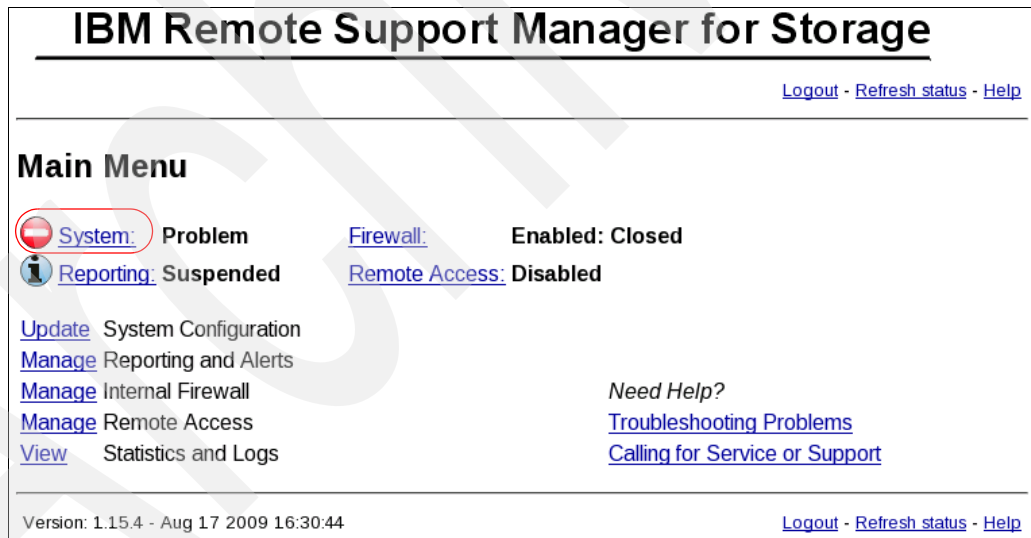

Figure 6-10 RSM main menu
3. You return to the Main Menu. The upper right menu contains a logout link. To start the setup, click **System**, as shown in Figure 6-10.